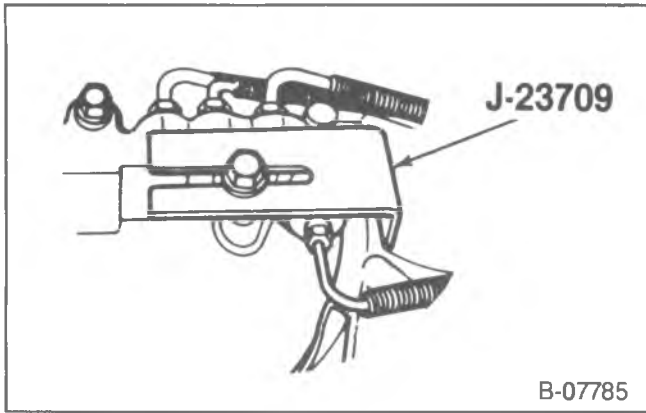

Figure 1—Installing Combination Valve Depresser
2. Use J-23709 to depress and hold the valve stem on the combination valve during the bleeding operation (figure 1).